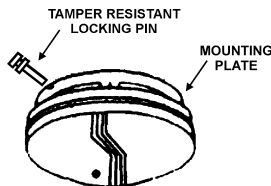

FIGURE 5
**USING TAMPER RESISTANT LOCKING PIN:** To make your carbon monoxide alarm somewhat tamper resistant, a locking pin has been provided in the bag with the screws and anchors. Using this pin will deter children and others from removing the alarm from the mounting plate. To use the pin, insert it into the hole in the side of the alarm after the alarm has been installed on the mounting plate (See Figure 5). Note the tamper resistant pin will have to be removed in order to change the battery. This can be done easily with long nose pliers. Using the long nose pliers, pull the pin out of the hole. It is now possible to remove the alarm from the mounting plate.
**IF THE TAMPER RESISTANT PIN HAS BEEN USED, REFER TO "TAMPER RESISTANT LOCKING PIN" FOR REMOVAL INSTRUCTIONS** (See Figure 5).